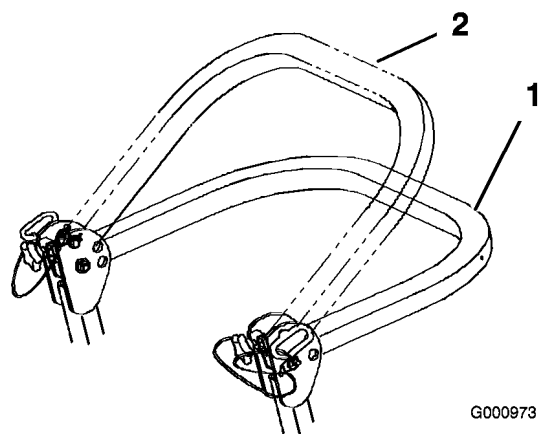

Figure 5
3. Lower the roll bar to the down position. There are two down positions. See Figure 5 for the positions.